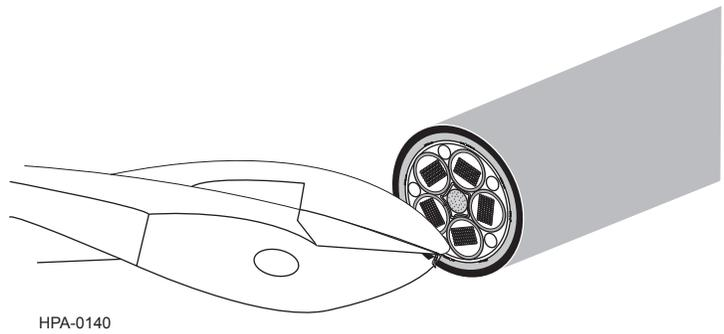

Figure 3
**Step 1:** To ease the grip installation, use side cutters to trim any protruding tubes or strength members (Figure 3).